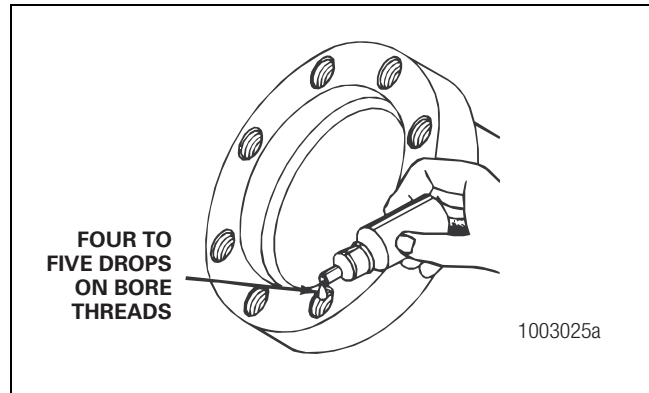

Figure 4.11
2. Apply four or five drops of Meritor liquid adhesive, Loctite® 680 adhesive, or equivalent, inside each threaded hole or bore. Do not apply adhesive directly to fastener threads. Figure 4.11.